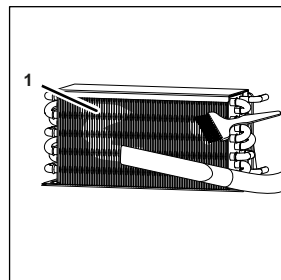

Figure 28
1. Clean any dirt off the condenser fins (Figure 28/1) using a brush and a vacuum cleaner.